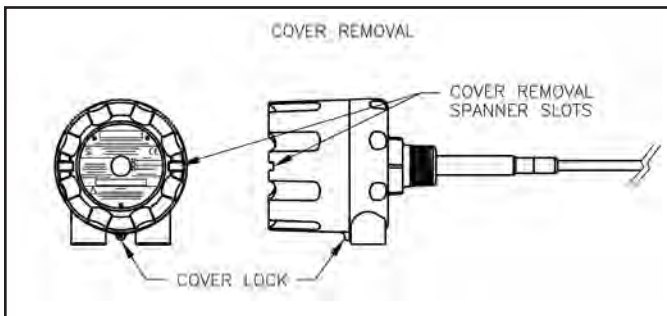

Figure 1
**Cover Removal:** (See Figure 1)